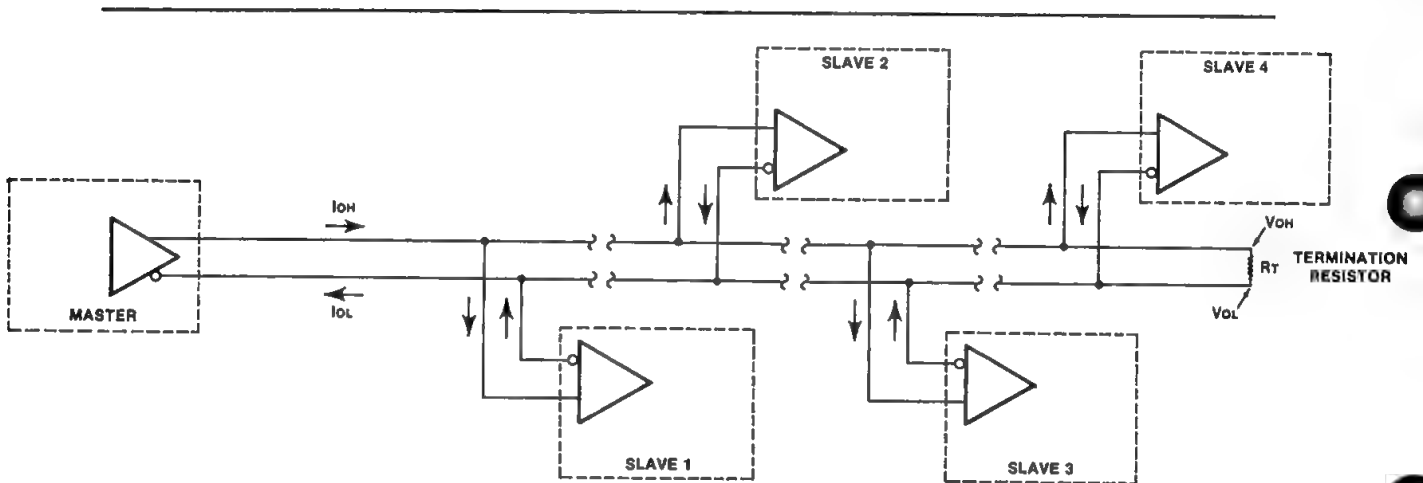

Figure A-9. System Example - Termination Resistance
- 2) As an example to calculate the termination resistance (R_T), assume that the system being configured contains four slaves, as shown in Figure A-9.